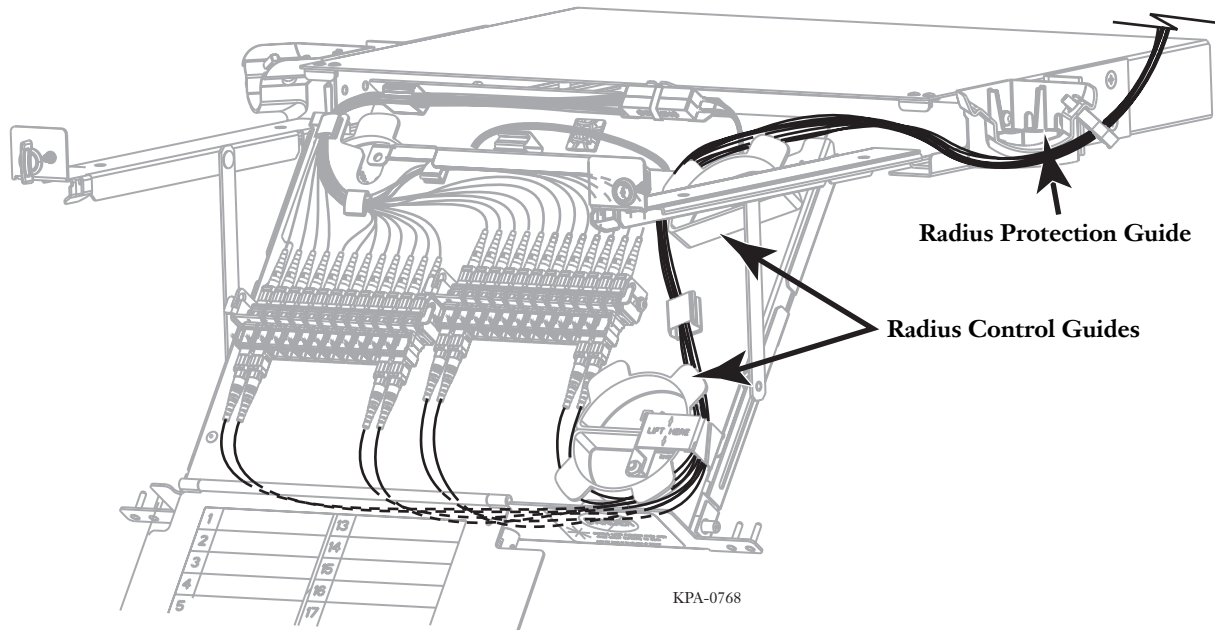

Figure 4 — Install Jumpers and Mate Connectors
- Step 3:** Bring distribution jumpers around the radius protection guide into the housing from the right side (Figure 4).
- Step 2:** Insert the connector into the adapter, paying attention to the key location on the connector (Figure 4).